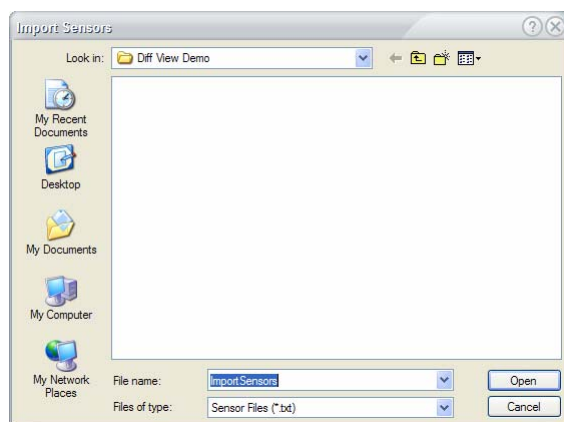

Figure 4-50: Importing Sensor data
- 1) From the Manage Sensors screen, click  (**Import Sensors**). The Import Sensors dialog box appears. See Figure 4-50.